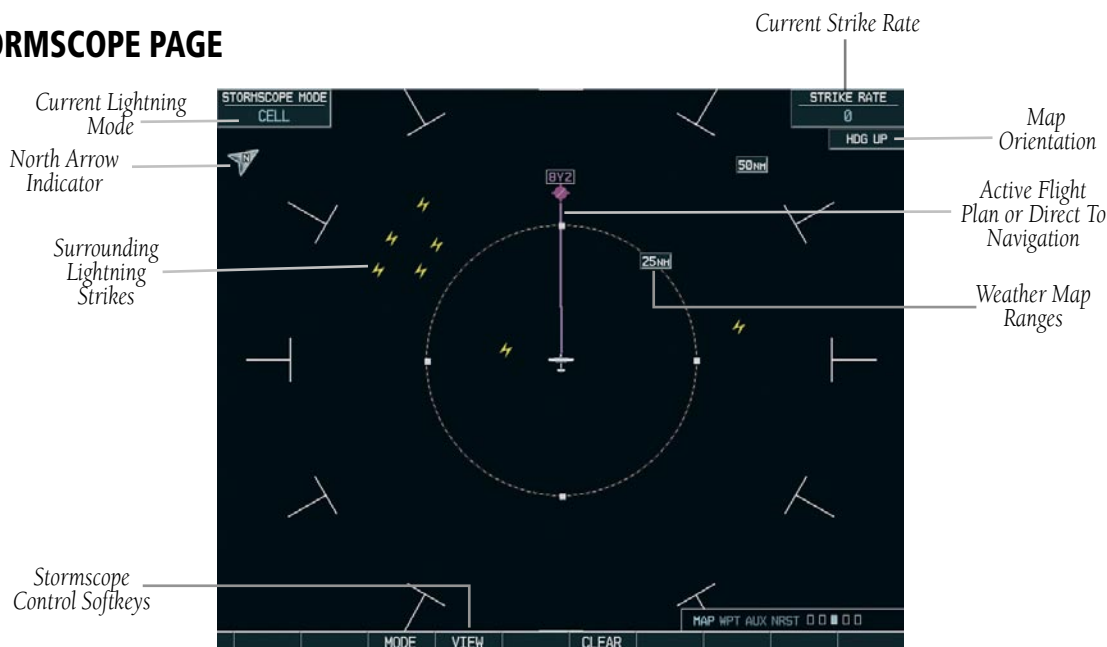

Figure 8-3 Stormscope Page
2. Turn the **small FMS** knob until the Stormscope Page is selected (Figure 8-3).